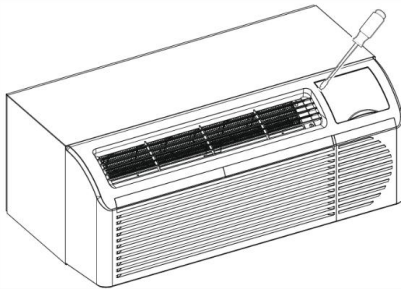

Fig. 8 — Remove Control Door from Front Panel
1. Insert flat head screw driver blade in space between door and front panel as show in Fig. 8.